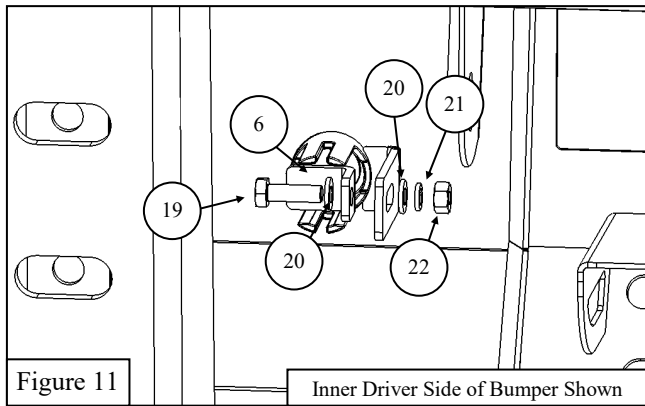

Figure 11
13. Use the Parking Sensor Tab (Item 6) along with the supplied M6 hardware (Items 19-22) to install the sensors as shown in **Figures 11 & 12**.